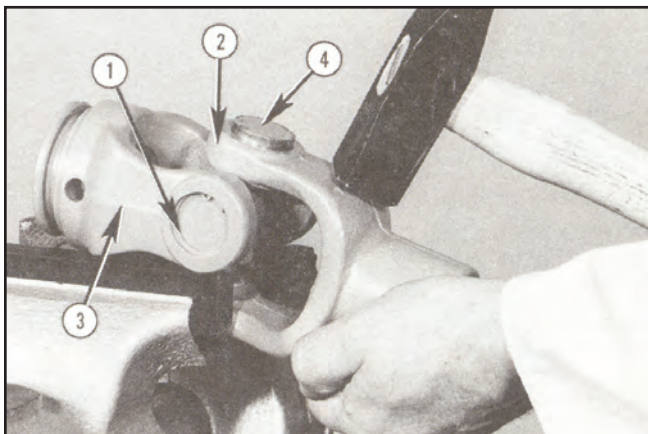

FIGURE 93
7. Repeat above steps to remove both needle bushings and center cross from opposite end (7) of flange assembly. Refer to Figures 93 and 94, page 40 and 41 for removal of needle bushings and center crosses from both outer yokes. Rest their "bare" center crosses on the vice jaws because they will be discarded.